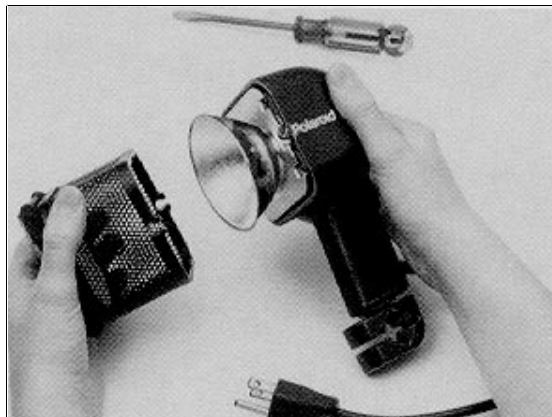

Figure 2-56. Removing Housing
- b. Remove the front to the lamp housing (figure 2-56).